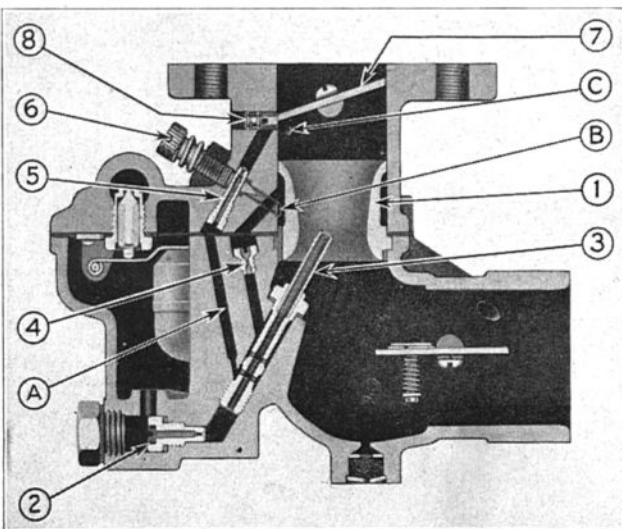

Figure 1
The removable Venturi (1) (see Figure 1) measures the volume of air which passes through the carburetor. In selecting the venturi, it is best to use the smallest size which will permit full power development.
Figure (2) shows the position of the throttle shaft (9) at closed throttle. At this point no suction is transmitted to the bowl, because the channel (C) (see Figures 1 and 2) is below the throttle plate (7), thus permitting a full flow of fuel through the idling system.